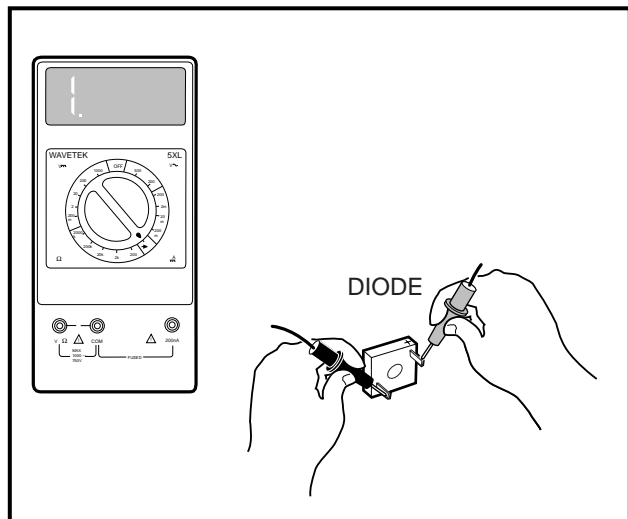

Figure 11-36 Diode Test – Probes Reversed
4. Reverse the multimeter probes and note the reading. The multimeter should indicate an overload (no continuity) (**Figure 11-36, Page 11-30**). A diode is designed to conduct current in one direction only. If a diode conducts current (shows continuity) in both directions, the diode has failed and must be replaced. If a diode does not conduct current (does not show continuity) in either direction, the diode has failed and must be replaced. **See Diode Removal, Section 12, Page 12-14.**